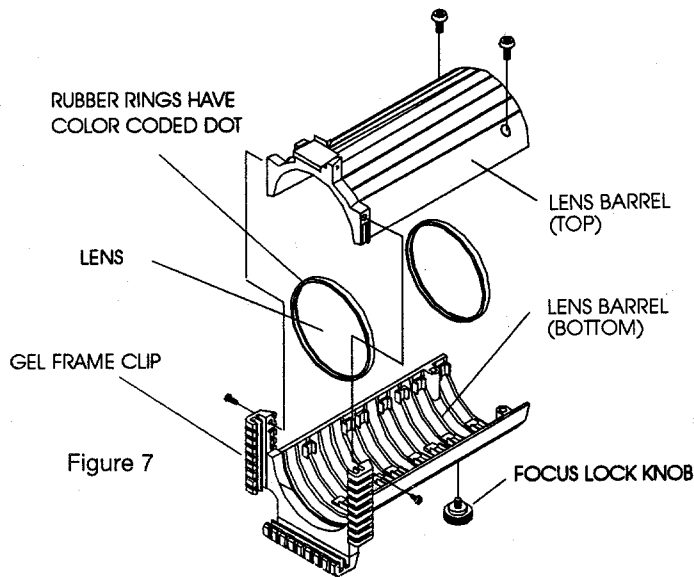

Figure 7
■ CLEANING/REPLACING LENSES Figure 7